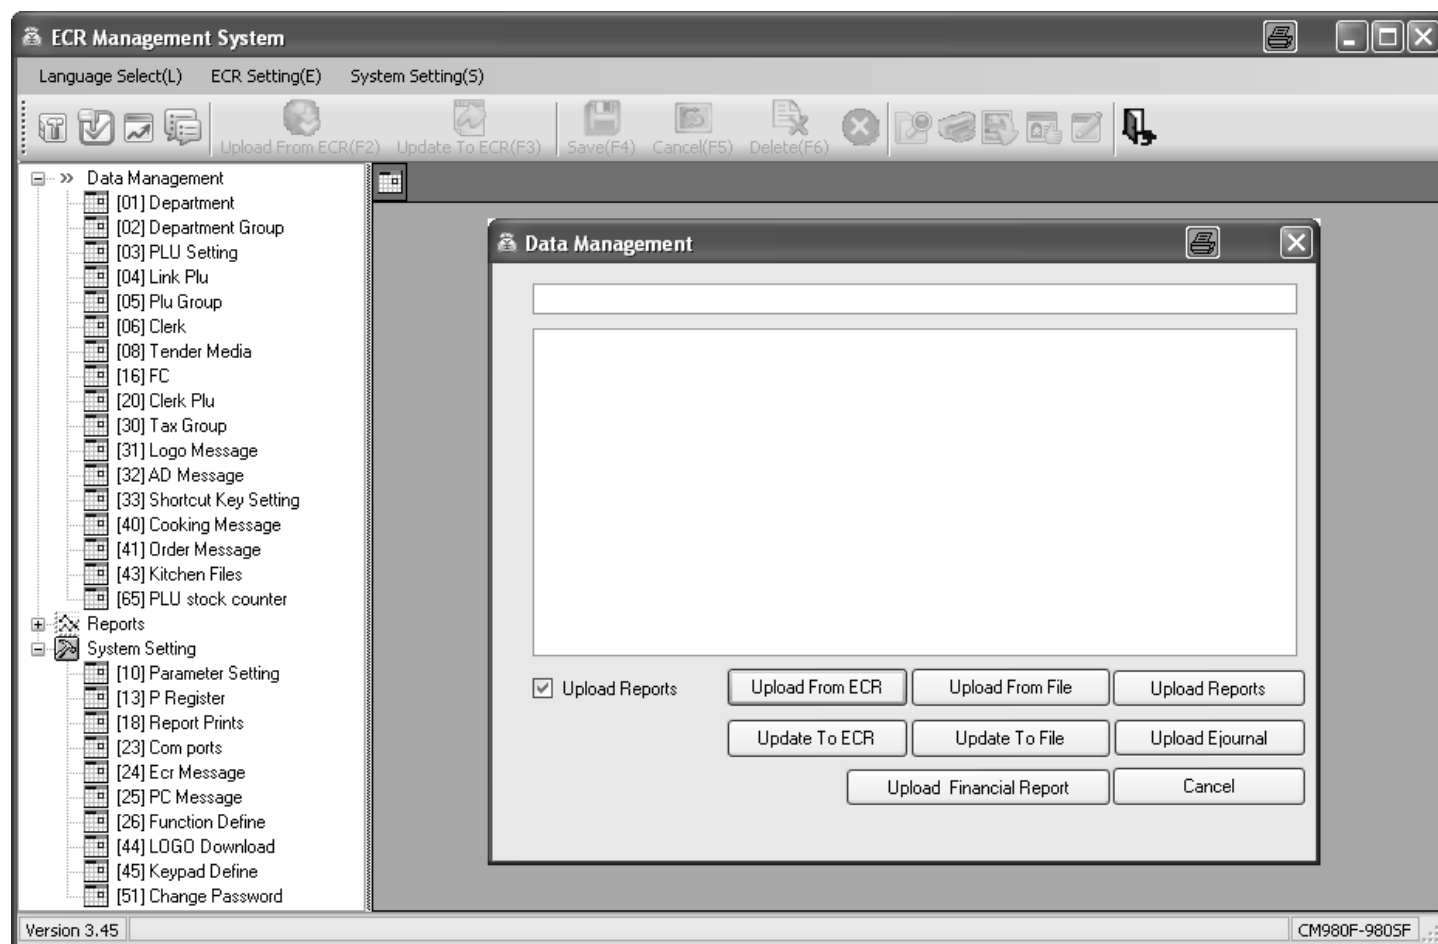

Fig. 9
2. Click on the **[Update To ECR]** button (see Fig. 9).
2. Click on the **[Upload From ECR]** button (see Fig. 9).